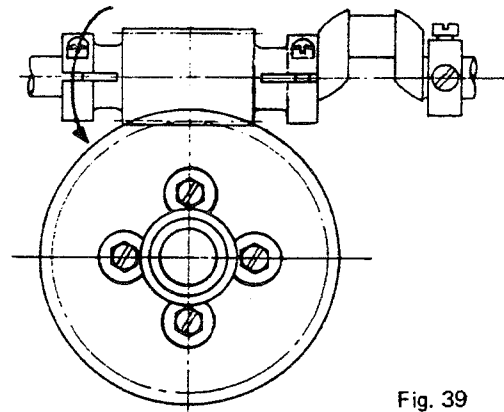

Fig. 39
- 2) Remove the cover from the machine arm and loosen the 4 screws which set the feed cam driving worm. Firmly hold the worm wheel shaft to keep it in position in relation to the main shaft and turn the worm in the direction of the arrow, so that the worm moves towards the main shaft rear bushing and the excessive play is eliminated. After this adjustment, securely tighten the 4 screws (Fig. 39).